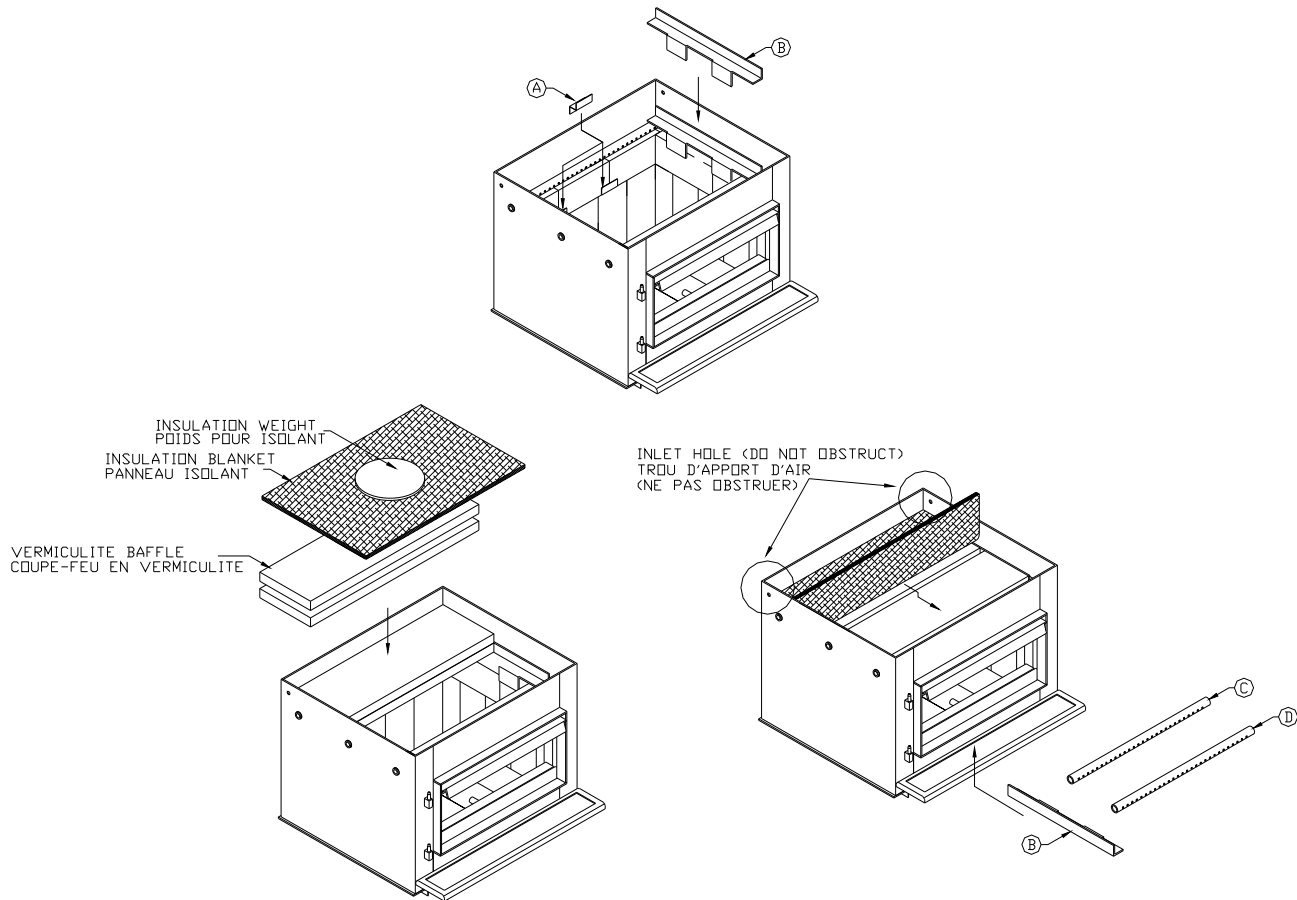

Figure 7
- 1- Install the stainless steel brick retainers (A) on the rear centre bricks intersections.
- 2- Install the first side baffle support (B) on one side of the firebox as shown in figure 7.
placed next to each other (not stacked). Put the insulation blanket on top of the vermiculite boards as shown in figure 7. Place the insulation weight at the top back center of the insulation blanket lined up with the flue outlet.